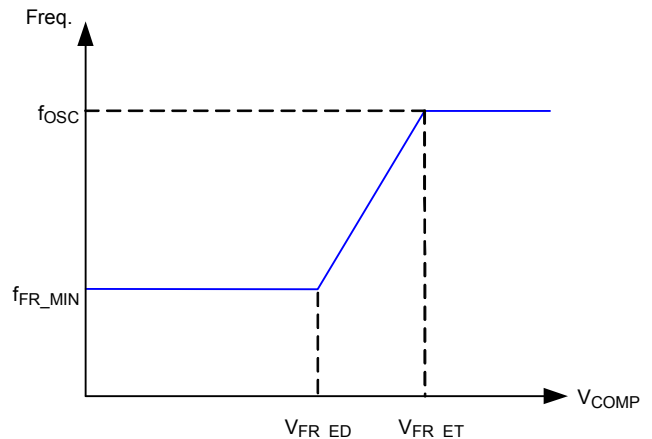

Figure 2. PWM Frequency vs. COMP Voltage
- **Frequency Reduction Mode** : The frequency reduction mode function provides linear switching frequency reduction according to load conditions, as shown in Figure 2. When the feedback voltage of COMP pin is lower than V_{FR_ET} , the switching frequency starts to decrease. When the power supply is at light-load and the feedback voltage of COMP pin lower than V_{FR_ED} , the switching frequency is clamped at f_{FR_MIN} . This frequency reduction mode function reduces power consumption under light-load and no-load conditions, and easily meets even the strictest regulations.